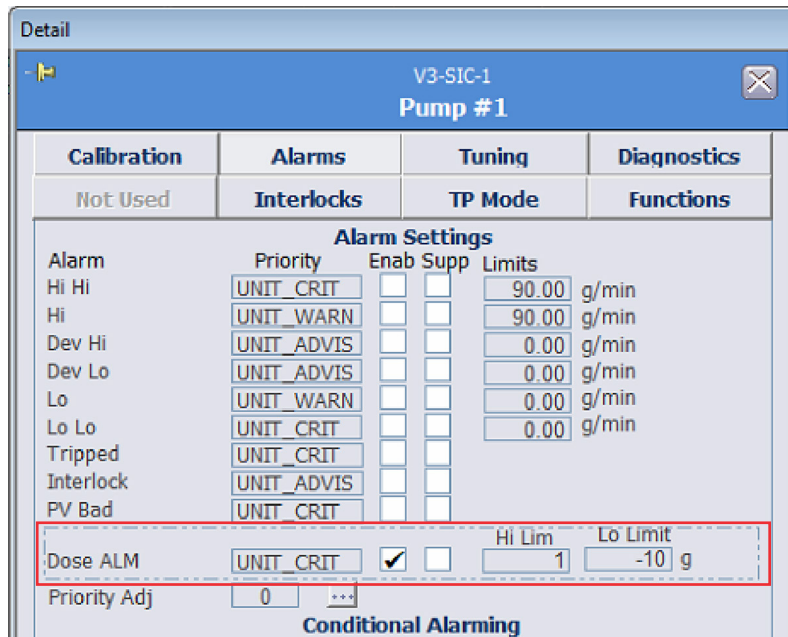

Figure 5.28. Dosing alarm enabled.
6. Open the **Alarms** tab on **Detail** window. The **Dose** alarm will appear. Click **Enable** to activate the alarm settings (Figure 5.28).
Note: The units are based on your settings and may differ from those in Figure 5.28.